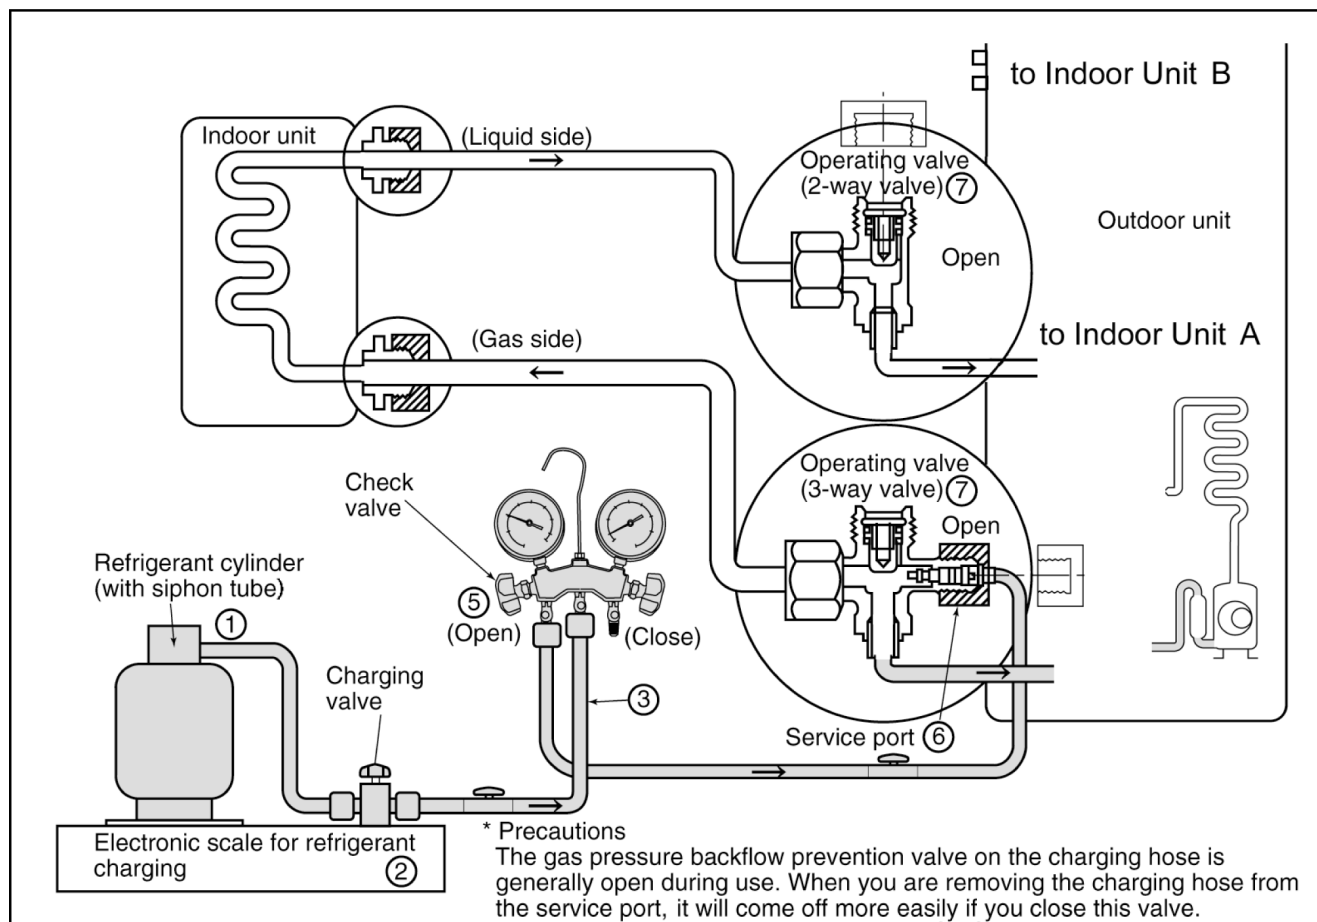

Fig. 13 Re-charging refrigerant
4. Confirm that the low pressure gauge shows a reading of  $-0.1$  Mpa ( $-76$  cmHg), then fully close the handle Lo, and turn off the vacuum pump. Wait for 1-2 minutes, then check to make sure that the needle of the Low pressure gauge has not returned. See Fig. 13 for the remaining steps of this procedure.
5. Set the refrigerant cylinder onto the electronic scale, then connect the hose the cylinder and to the connection port for the electronic scale. (1)(2)